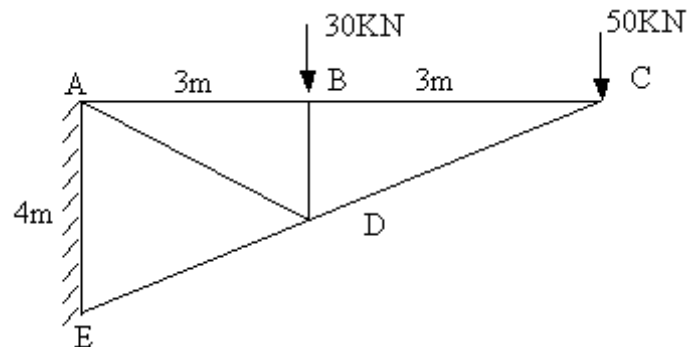

Figure 3:
5. Determine the vertical displacement of joint C of the truss. Cross sectional area of each member $A = 300\text{mm}^2$, $E = 2 \times 10^5 \text{ N/mm}^2$. Solve using Castigliano's theorem. Shown in Figure 3 [16]